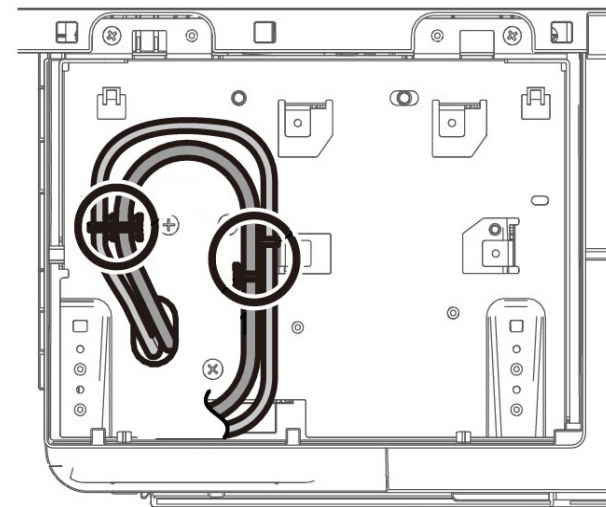

Figure 1 Release push ties
3. Release four push ties, then release the harnesses, Figure 1.